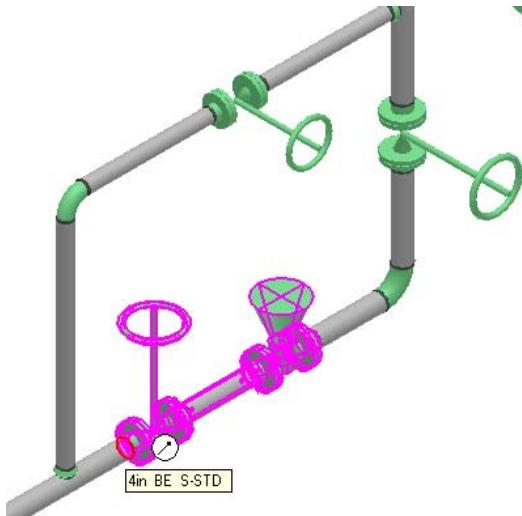

Figure 17: Origin of the Move Vector
4. Select the buttweld end port of the flange, as shown in Figure 17, to specify the origin for moving the pipe parts.